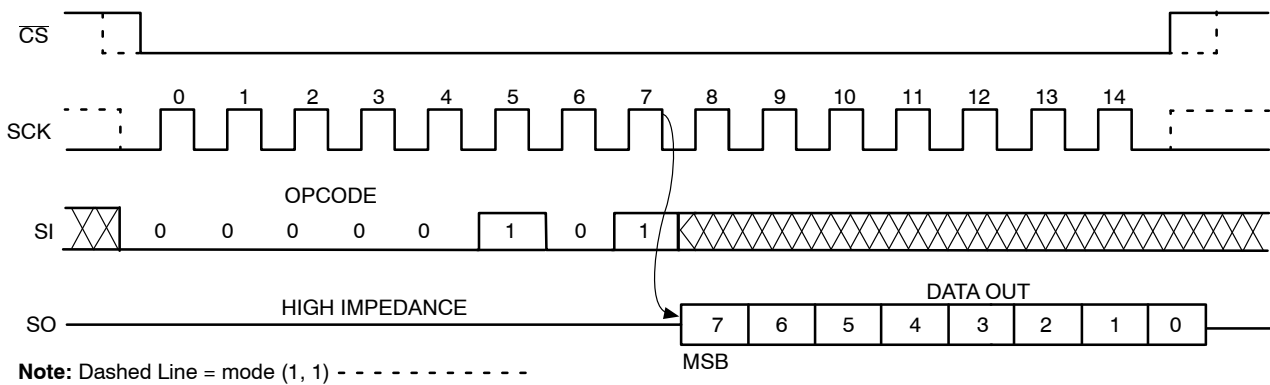

Figure 10. RDSR Timing
Reading the additional 256-byte Identification Page (IP) is achieved using the same Read command sequence as used for Read from main memory array (Figure 10). **The IPL bit from the Status Register must be set (IPL = 1) before attempting to read from the IP.** The [A7:A0] are the address significant bits that point to the data byte shifted out on the SO pin. If the CS continues to be held low, the internal address register defined by [A7:A0] bits is automatically incremented and the next data byte from the IP is shifted out. The byte address must not exceed the 256-byte page boundary.
To read the status register, the host simply sends a RDSR command. After receiving the last bit of the command, the CAT25M02 will shift out the contents of the status register on the SO pin (Figure 10). The status register may be read at any time, including during an internal write cycle.